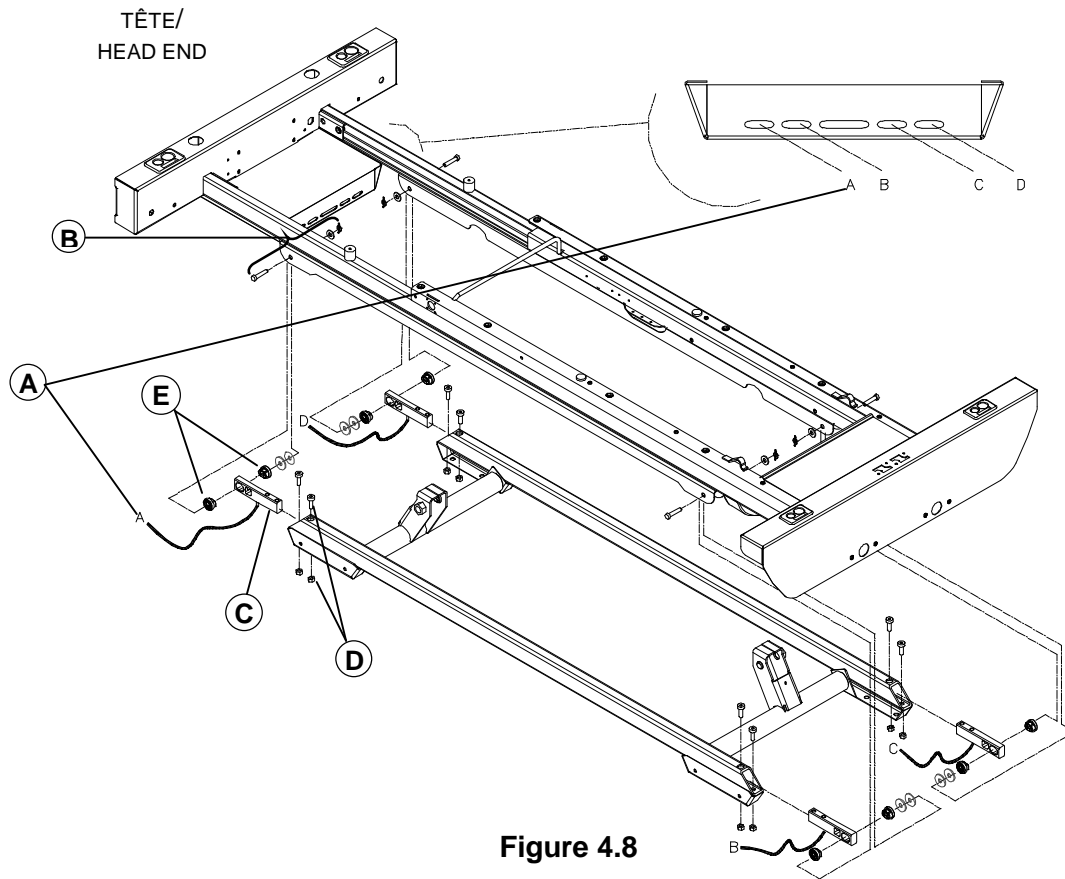

Figure 4.8
2. Verify that the load cell cables are properly connected to the scale control board (see figure 4.8, page 43 for the cable connecting positions).
3. Verify that the load cell cables are properly connected to the scale control board (see figure 4.8, page 43 for the cable connecting positions).
3. Disconnect the defective load cell cable (A) from the scale control board (see figure 4.8 above to identify the right cable).
4. Lower the bed on the jacks until the clevis pin (B) holding the two parts of the fixed frame is free from stress and easy to remove.
5. Using needle nose pliers, remove the Rue ring/washers(3)/clevis pin (B).
6. Continue to lower the bed until the load cells (C) are easily accessible.
7. Using a 5/16" Allen key and a 1/2" wrench, remove the two bolts/ locknuts (D) holding the load cell to the bed frame.
8. Remove the defective load cell. Inspect the elastomer sleeves (E) to ensure that the circular hole has not become elliptic. Replace if needed.